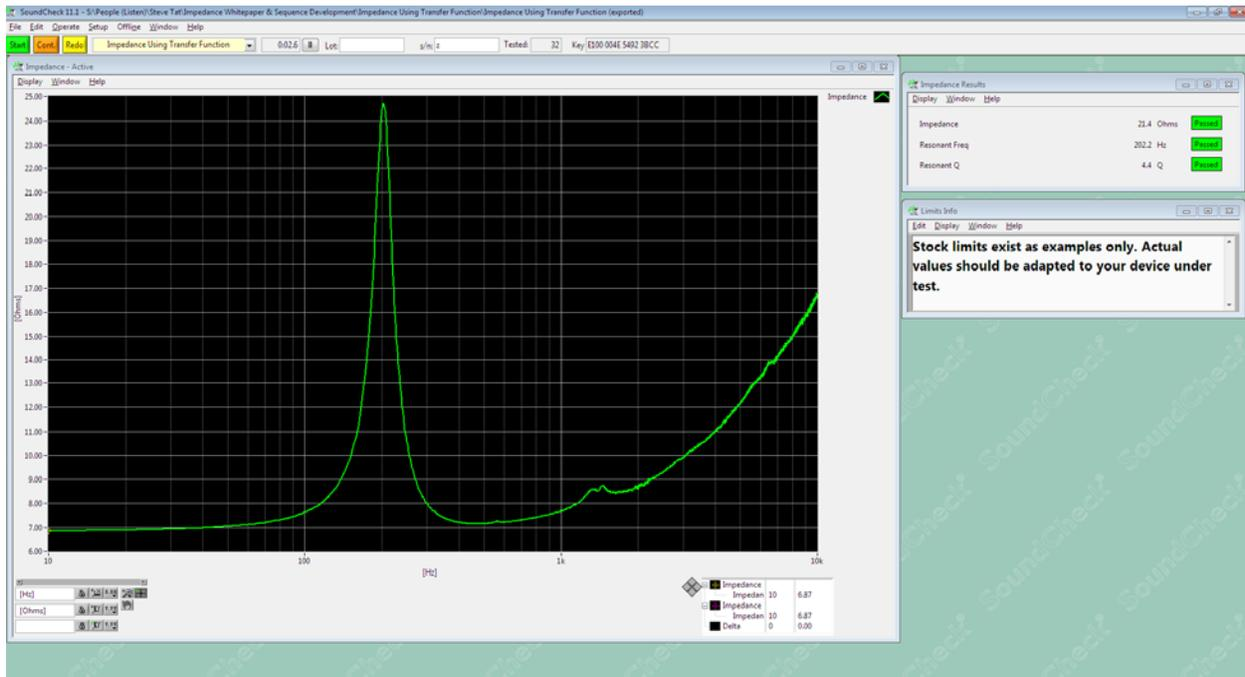

Fig. 6: Test Result from Impedance Measurement Test in SoundCheck
Fig. 6 shows the output from a SoundCheck impedance measurement. It can be seen that the curve becomes a flat line at low frequencies as the speaker approaches DC resistance. If, when running a test, the curve goes up at low frequencies, this is a sure sign that calibration is incorrect or the output correction is incorrectly applied. The peak at resonance is clearly seen around 200Hz, and above that the impedance increases with frequency as it becomes more inductive. SoundCheck has applied curve fitting and calculated impedance (Z_{Max}), Resonant frequency (F_0) at Z_{Max} , and the Quality or Q-factor, the width of the resonant peak (Q); these are displayed in the right hand window.